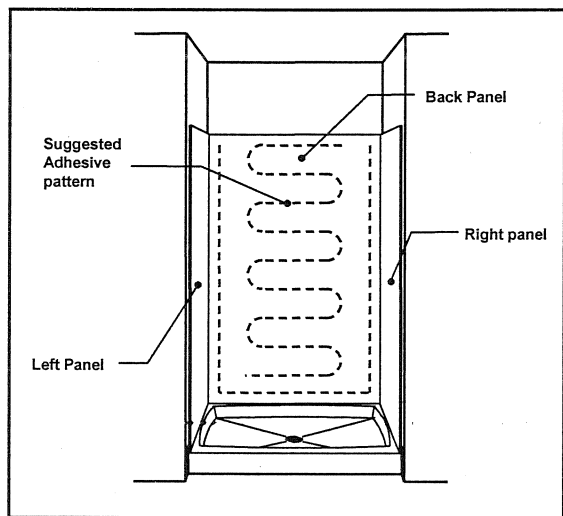

Fig. 7
Step 8. Install the back panel first. Quickly apply adhesive directly to the sheetrock in heavy 1/4" diameter beads (one tube will do approx. 2 lineal feet of a 72" high wall panel). The adhesive "skins" over quickly and excessive "skinning" can reduce the bond to the panels. Beads should be placed within 3" of the panel perimeter, and in a zig-zag pattern on 8" centers (shown by the dashed line in Fig. 7). Note: For the left panel of the neo-angle shower put an additional bead 1" in from the outer edge of the panel to provide additional support for the shower enclosure hardware. Place the wall panel into position and press firmly into the adhesive. For Subway Tile panels: Align the center "Grout line" with the guide line marked on the wall. Shim and brace in position